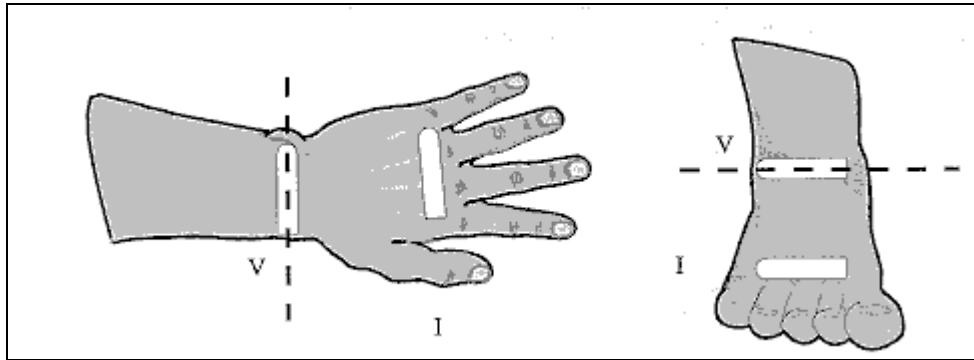

Figure 3-10. Electrode placement
- Place black current-injection electrode (I) on the dorsal surface of the right hand proximal to the metacarpal-phalangeal joint (Figure 3-10).
- Place red current-injection electrode (I) on the dorsal surface of the right foot proximal to the metatarsal-phalangeal joint (Figure 3-10).
- Place the center of a voltage-detector electrode (V) on the mid-line between the prominent ends of the right radius and ulna of the wrist (Figure 3-10).
- Place the center of a voltage-detector electrode (V) on the mid-line between the prominent ends of the medial and lateral malleoli of the right ankle (Figure 3-10).